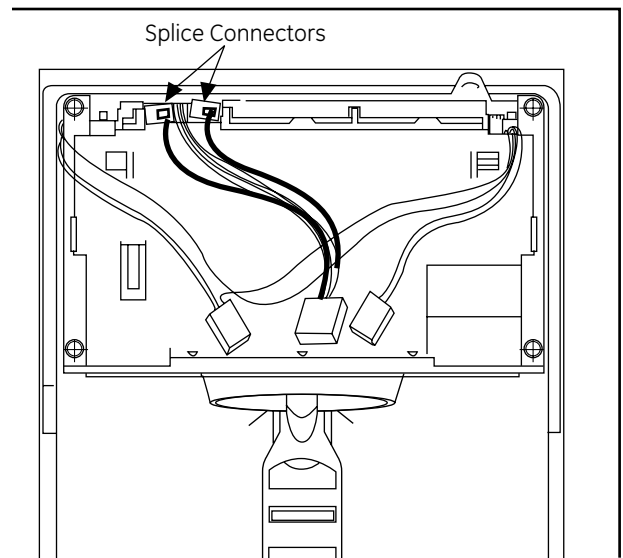

Figure 5
7. Replace dispenser cradle assembly and control board. See Figure 5 for wire routing.